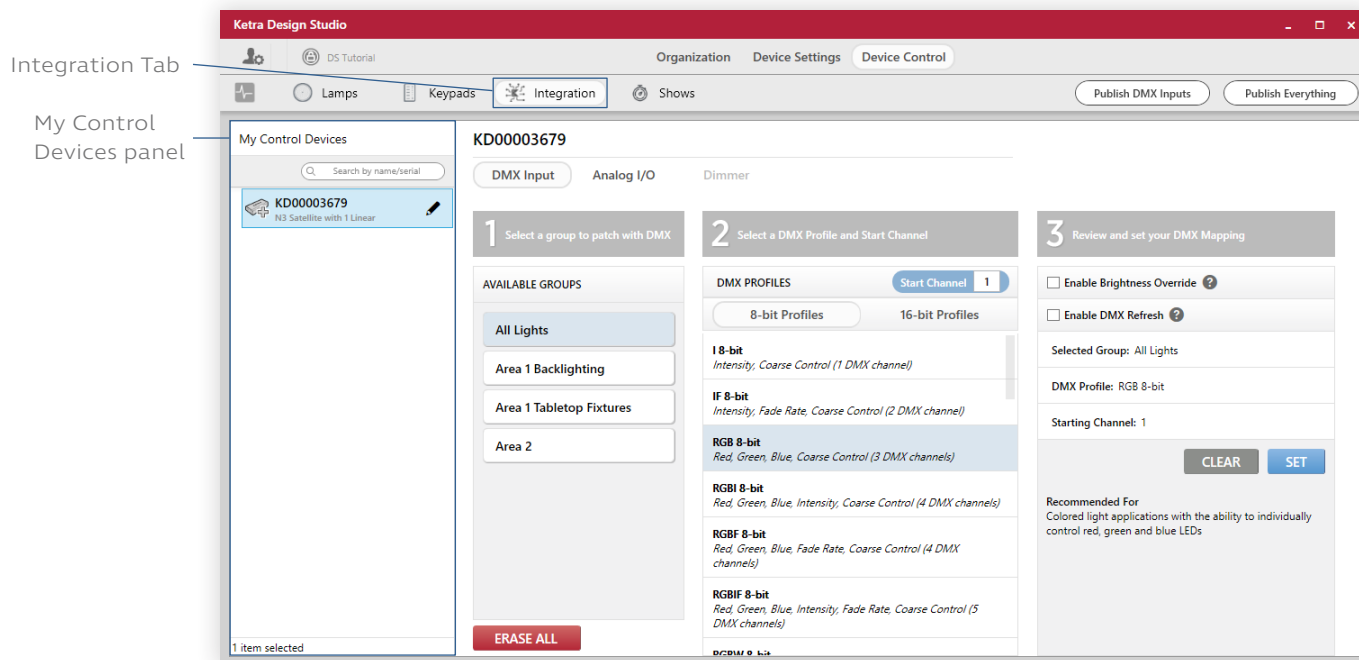

fig. 65
- 1 On the Integration tab, select the N3 Satellite you want to configure. Your list of N3 Satellites can be found in the My Control Devices panel, shown in fig. 65.